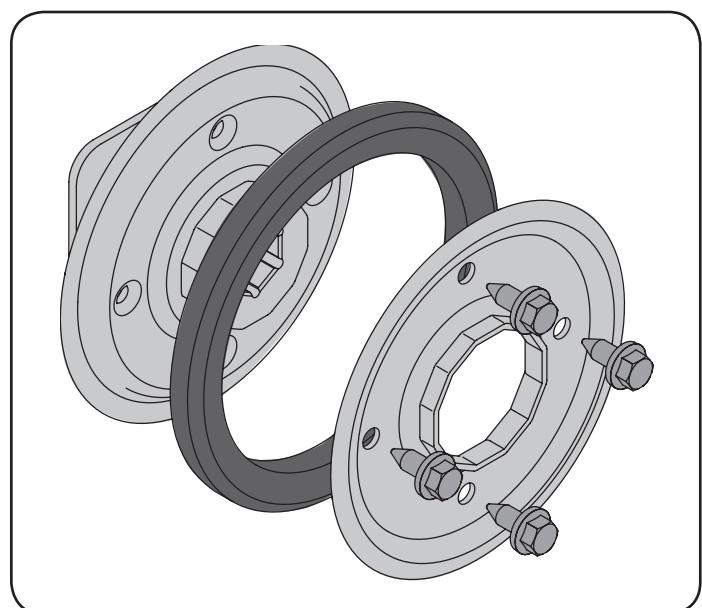

Figure 32
- Remove the four screws which secure the friction wheel's side plates together. See Figure 32.